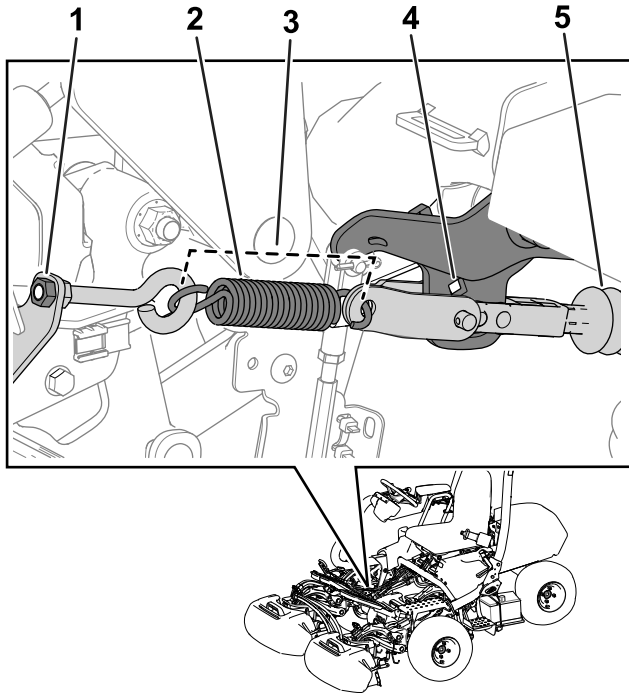

Figure 40
Note: Refer to Figure 40 for this procedure.
3. Prepare for operation by tightening the eyebolt nut so that the spring length is 11.4 cm (4.5 inches) when installed (Figure 40).